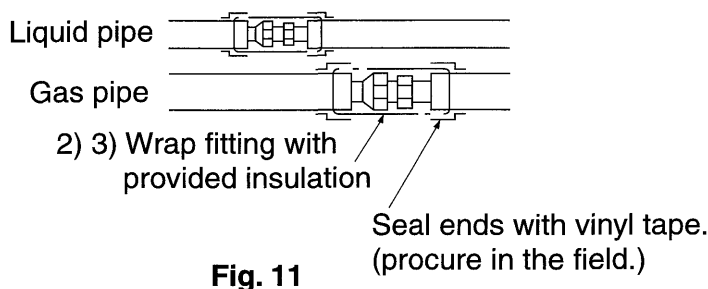

Fig. 11
- After checking for gas leaks in the pipe connections, insulate them as shown in Fig. 11 and 12. (Install so that no pipes are exposed, as this may cause leaking.)
1. Do not overlap insulation for fitting. **(Refer to Fig. 11)**